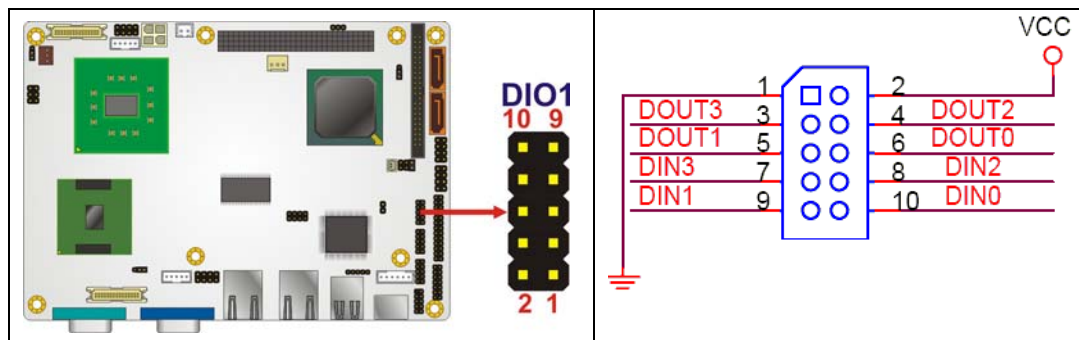

Figure 3-9: DIO Connector Connector Locations
- CN Location:** See Figure 3-9